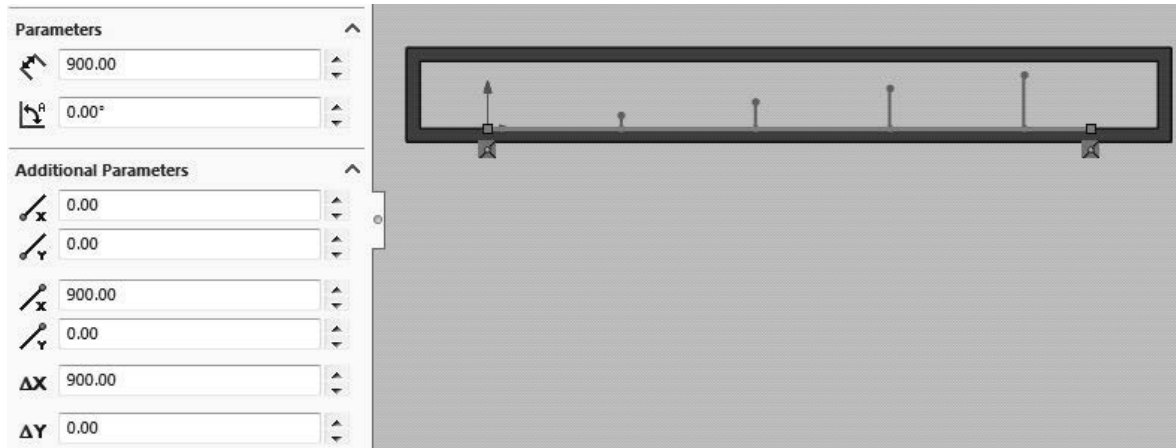

Figure 2.9 Sketch of a line in the X-direction
9. Click on the **Rebuild** symbol  in the SOLIDWORKS menu. Repeat step 6 and draw a horizontal line in the positive X-direction starting at the origin of the lower inner surface of the sketch. Set the **Parameters** and **Additional Parameters** to the values shown in figure 2.9 and close the **Line Properties** dialog and the **Insert Line** dialog. Click on the **Rebuild** symbol. Rename the sketch in the **FeatureManager design tree** and call it  $x = 0 - 0.9 \text{ m}$ .